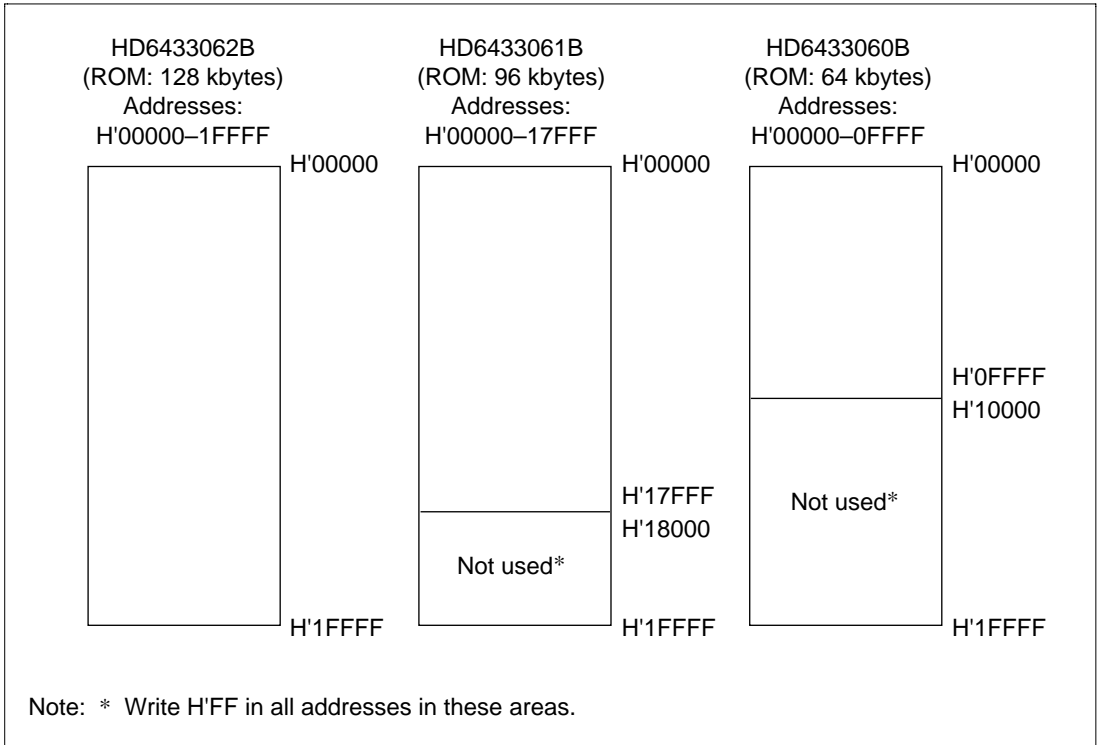

Figure 19.20 Mask ROM Addresses and Data
2. Fill all unused addresses with H'FF as shown in figure 19.20 to make the ROM data size 128-kbytes for the H8/3062, H8/3061, and H8/3060 mask ROM versions, which incorporate different sizes of ROM. This applies to ordering by means of an EPROM and by means of data transmission.